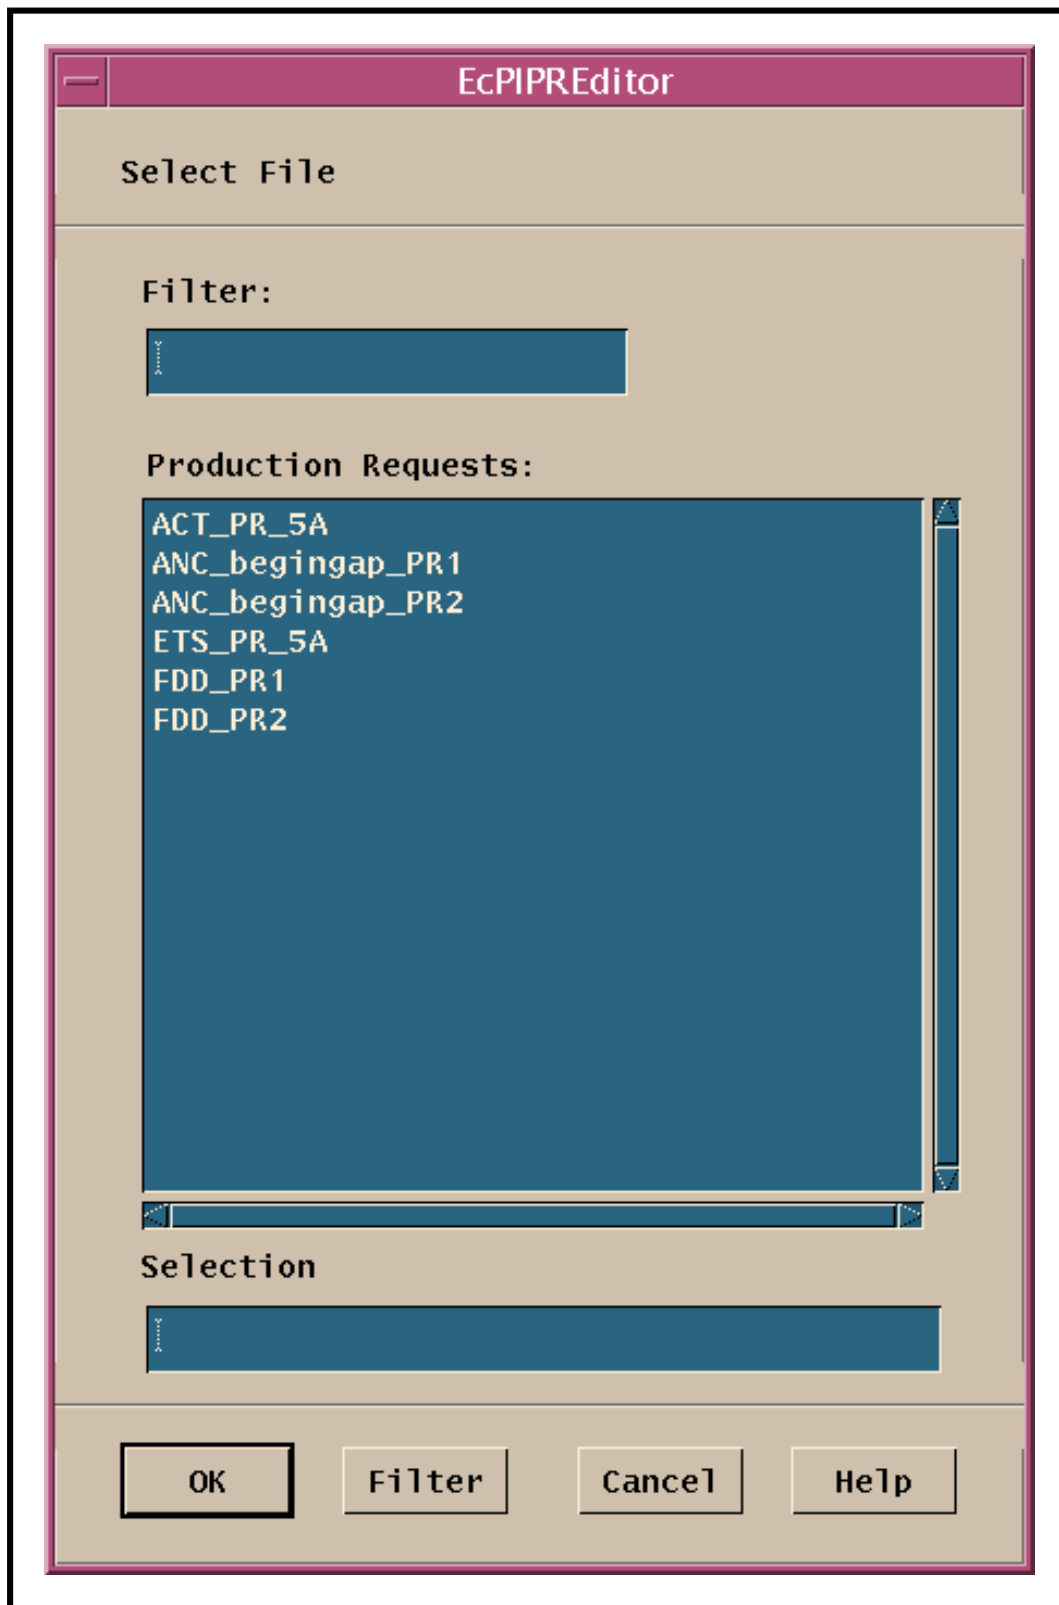

Figure 22. Production Request Editor File Selection Window
- The **File Selection** window (Figure 22) is displayed.
- The **MetadataChecks** GUI page (Figure 22) is displayed.